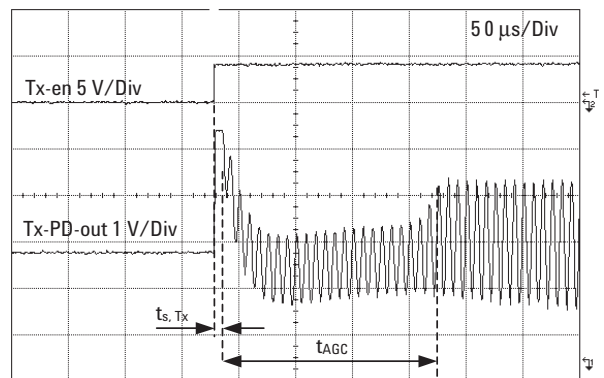

Figure 26. Tx-PD-out AGC response time
- Time from transmit is enabled (V_{Tx-en} is set to logic high) until output (Tx-PD-out) is available. See Figure 26 in the Application Information section.
- Time from output (Tx-PD-out) is available until Tx-PD-out signal reaches 66% of its steady state level. See Figure 26 in the Application Information section.
level (see Figure 26). To ensure correct operation of the internal circuitry, an external $1 \mu F$ capacitor needs to be connected from pin 11 to GND2.